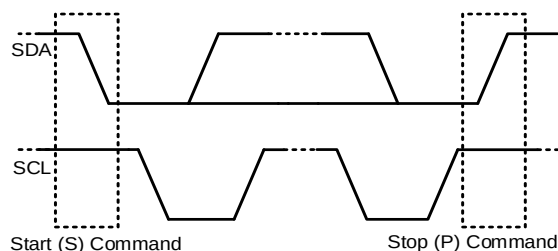

Figure 6: Start and Stop Commands
All transactions begin with a start (S) command and are terminated by a stop (P) command. Start and stop commands are always generated by the master. A start command is defined as a high-to-low transition on the SDA line while SCL is high. A stop command is defined as a low-to-high transition on the SDA line when the SCL is high (see Figure 6).